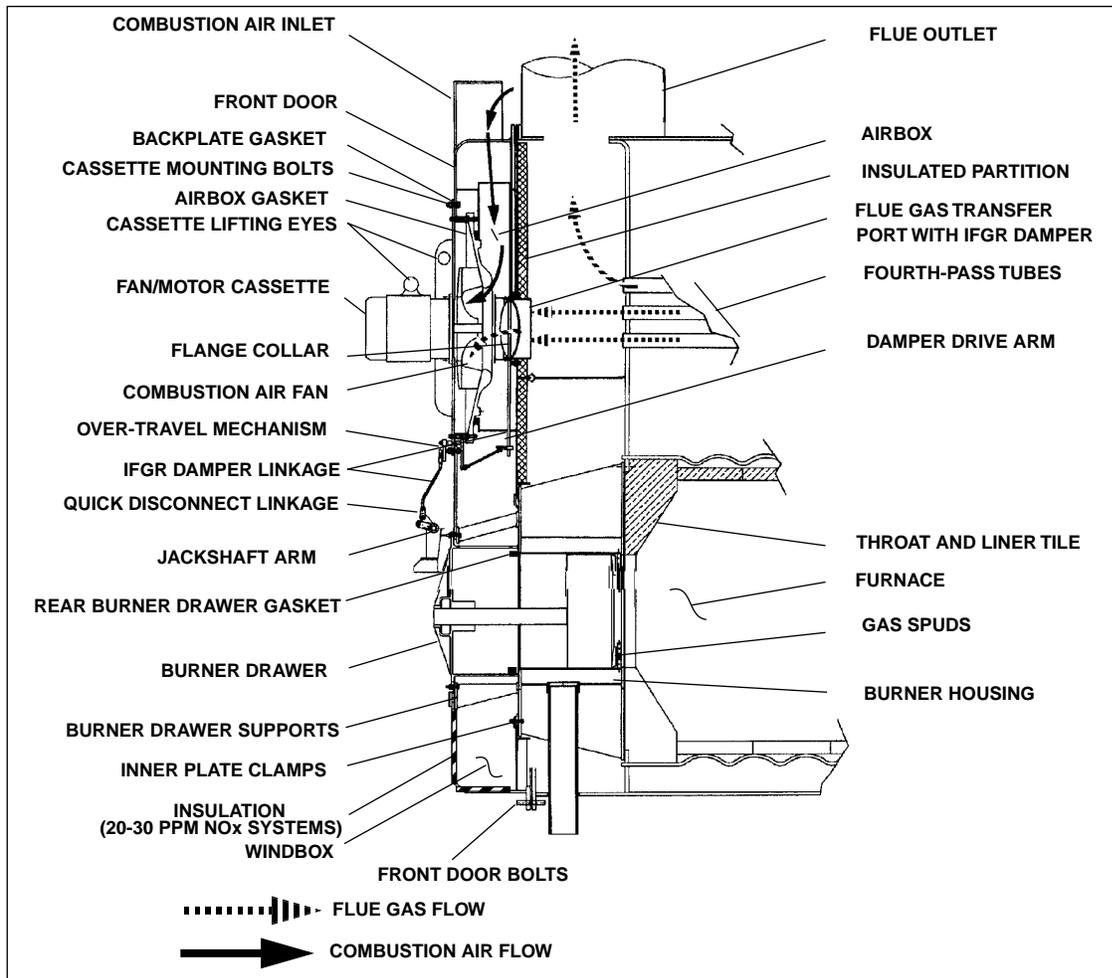

Figure: 1-15 Induced Flue Gas Recirculation System, General Arrangement
1. Flue Gas Transfer Port, IFGR Damper, and Flange Collar (Figure 1-15). The flue gas transfer port is a tube that allows the flue gases to travel from the exit of the fourth-pass tubes to the entrance of the combustion air fan.
3. Over-Travel Mechanism (Figures 1-15 and 1-16). The over-travel mechanism has two functions. It allows the linkage to pass through the front door, and it allows jackshaft rotation to exceed (over travel) IFGR linkage
- 6. Burner Drawer (Figure 1-15). The gas spudding pattern for the IFGR system may be different than that of a non-IFGR CB Burner of the same horsepower (HP) model designation.
- 7. Combustion Air Inlet (Figure 1-15). The combustion air inlets are located at the top of the front door. Air enters from the rear of the air inlet shrouds, which reduces the
- 8. Front Door Insulation (Figure 1-15). If NO_x emissions are below 60 PPM, the front door is insulated inside to control temperature build up. The insulation is held in place with wire mesh.